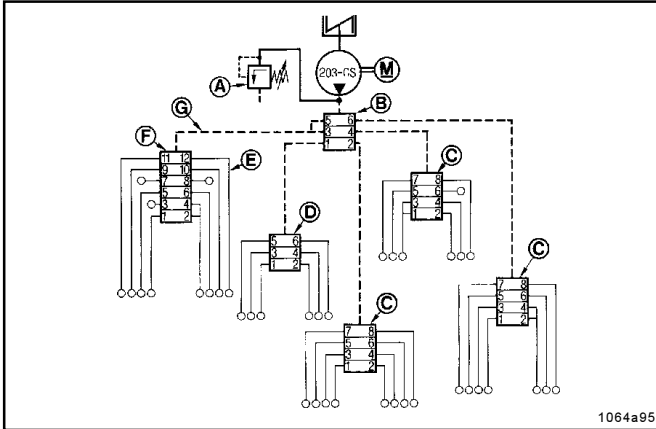

Fig. 7 - Example of a lubrication system
- The main metering device (B, Fig. 7) and the secondary metering devices are connected by a main line G. This feature automatically causes the linkage of the progressive system connected downstream of the pump.